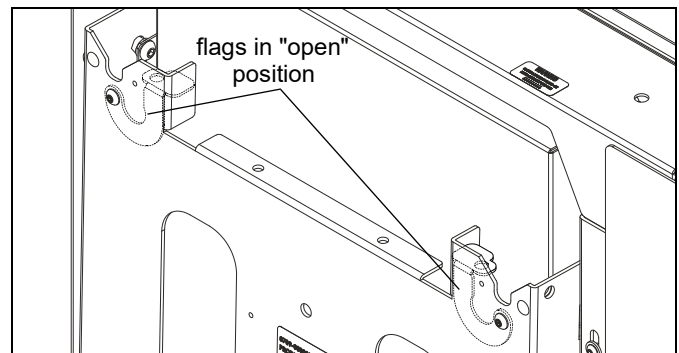

Figure 31
2. Make sure latching flags are in "open" position. (See Figure 31)